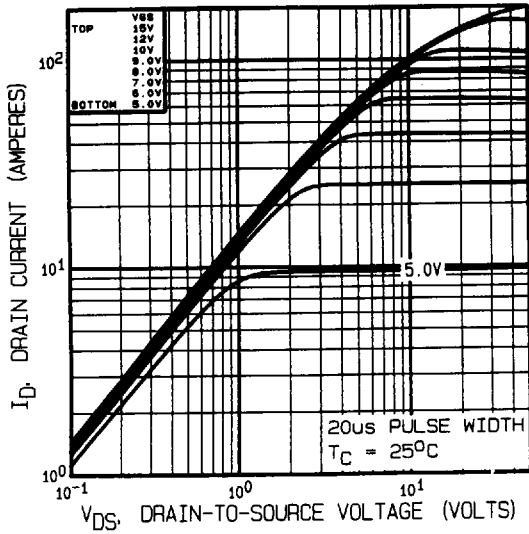

Fig. 18 — Typical Output Characteristics, $T_C = 25^\circ\text{C}$
① See Figures 18 through 31 for pre-radiation curves.